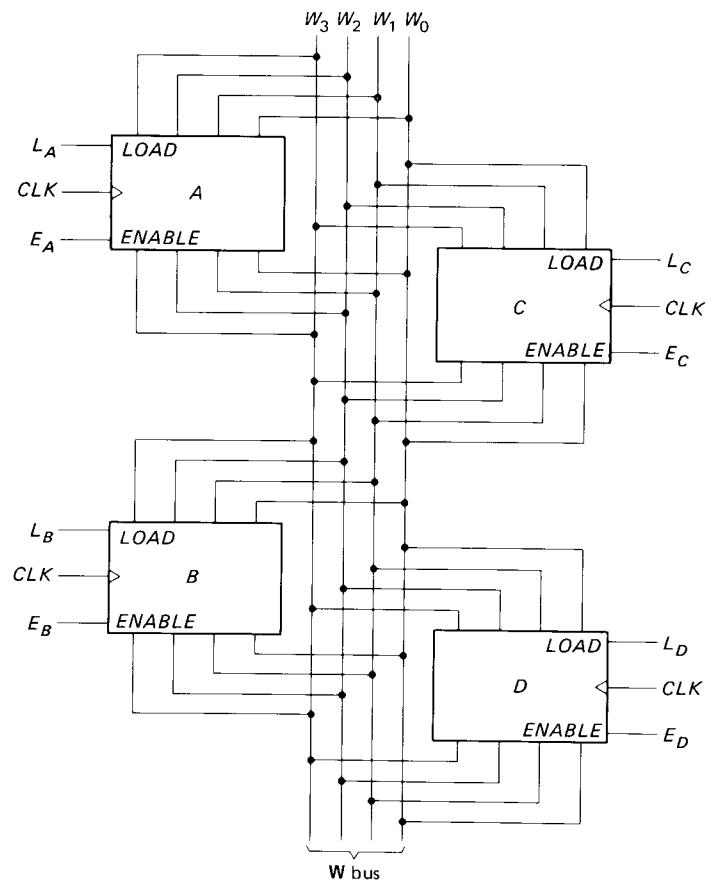

Fig. 8-34
- 8-18.** In Fig. 8-34, we want to transfer the contents of register D to register C. Which are the *ENABLE* and *LOAD* inputs you should make high?